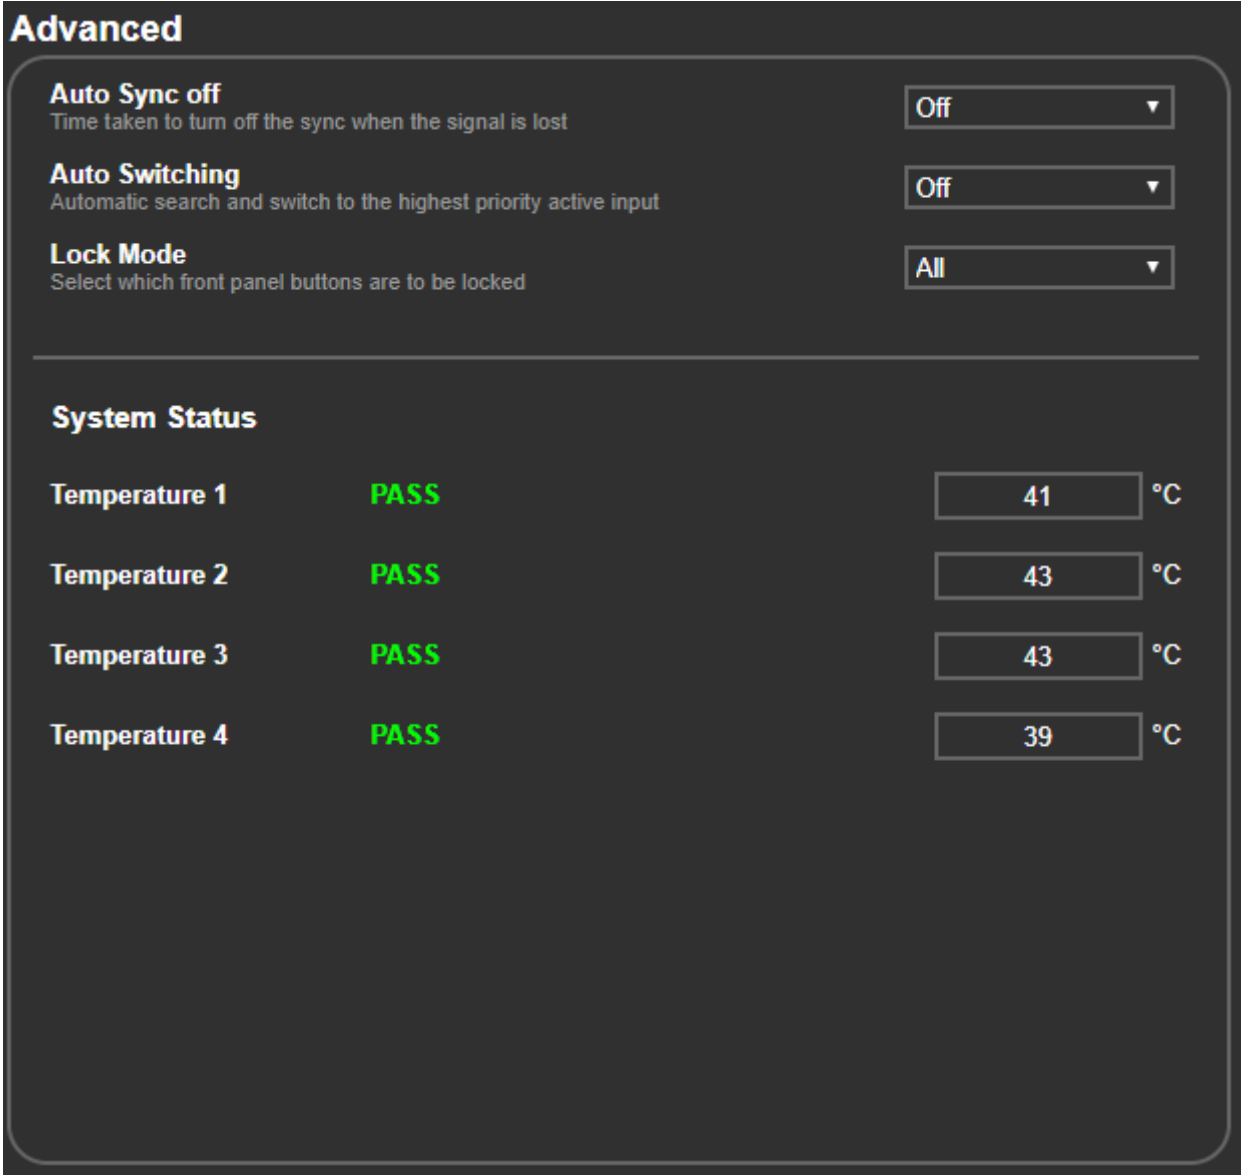

Figure 25: The Advanced Page
1. Click **Advanced** on the Navigation List (see Figure 25).